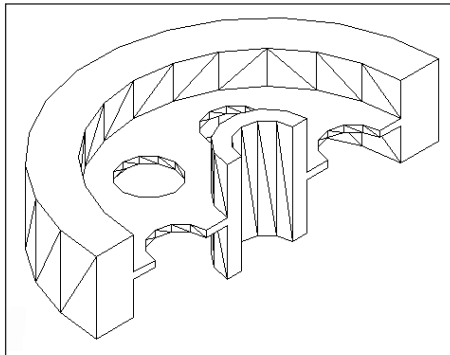

Figure 24-24: The solid after subtracting the extruded circle and doing a hide
8. Use the HIDE command to hide the model. Your drawing should look like Figure 24-24.